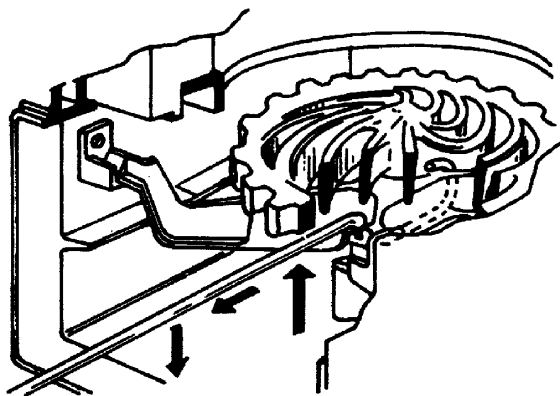

Fig. 6
1. Engage the curved end of the grate assembly removal tool, within the groove in the centre of the bottomgrate support (Fig. 6).